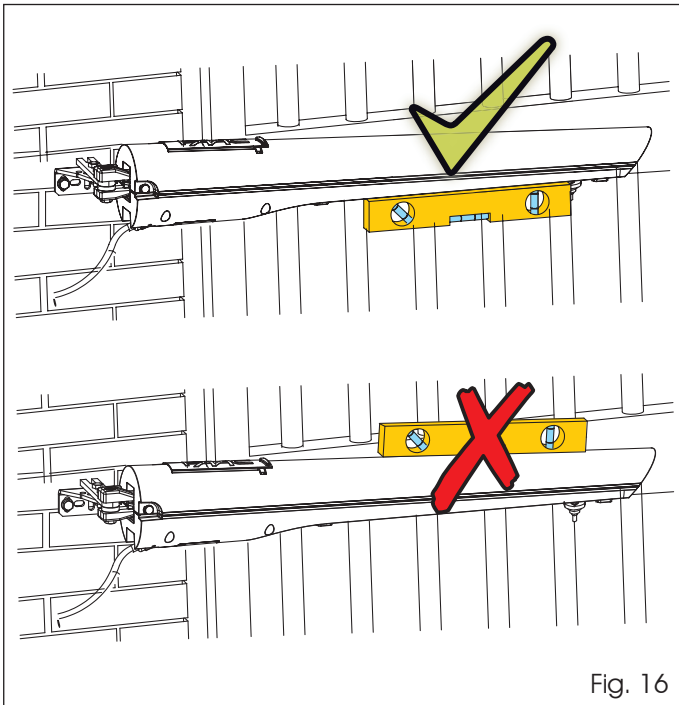

Fig. 16
- Check that the operator is horizontal using a level **on the bottom side of the operator as indicated in Fig. 16**, and temporarily secure the front bracket with clamps or two welding spots.